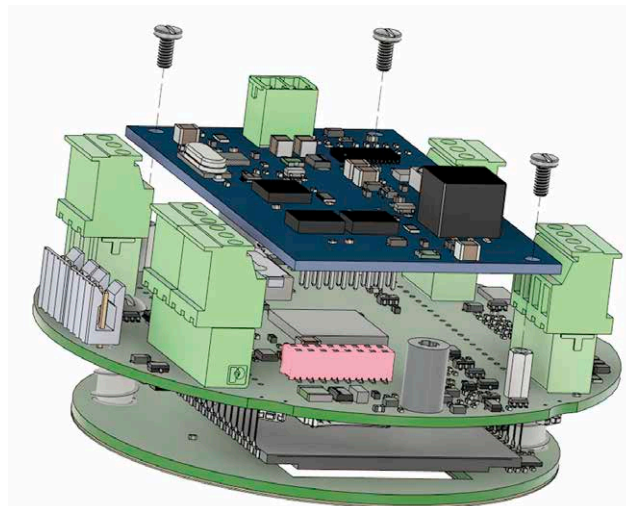

Figure A.3—Header-to-pin alignment (header color is changed for illustration purpose; the actual header is black)
6. Identify the header block on the main board (located just below TB1) that will mate with the pins on the expansion board. Orient the expansion board to visually align the pins on the back side with the main board header (Figure A.3).
8. Install the three remaining screws through the corner holes of the expansion board and into the standoffs to secure the expansion board to the standoffs (Figure A.3, page A-2).